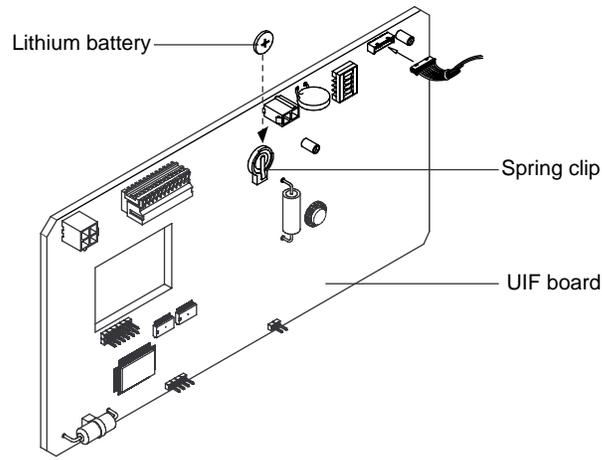

Figure 6-16: Removing Lithium Battery
1. Locate the 3-volt lithium battery on the UIF board (Figure 6-16).